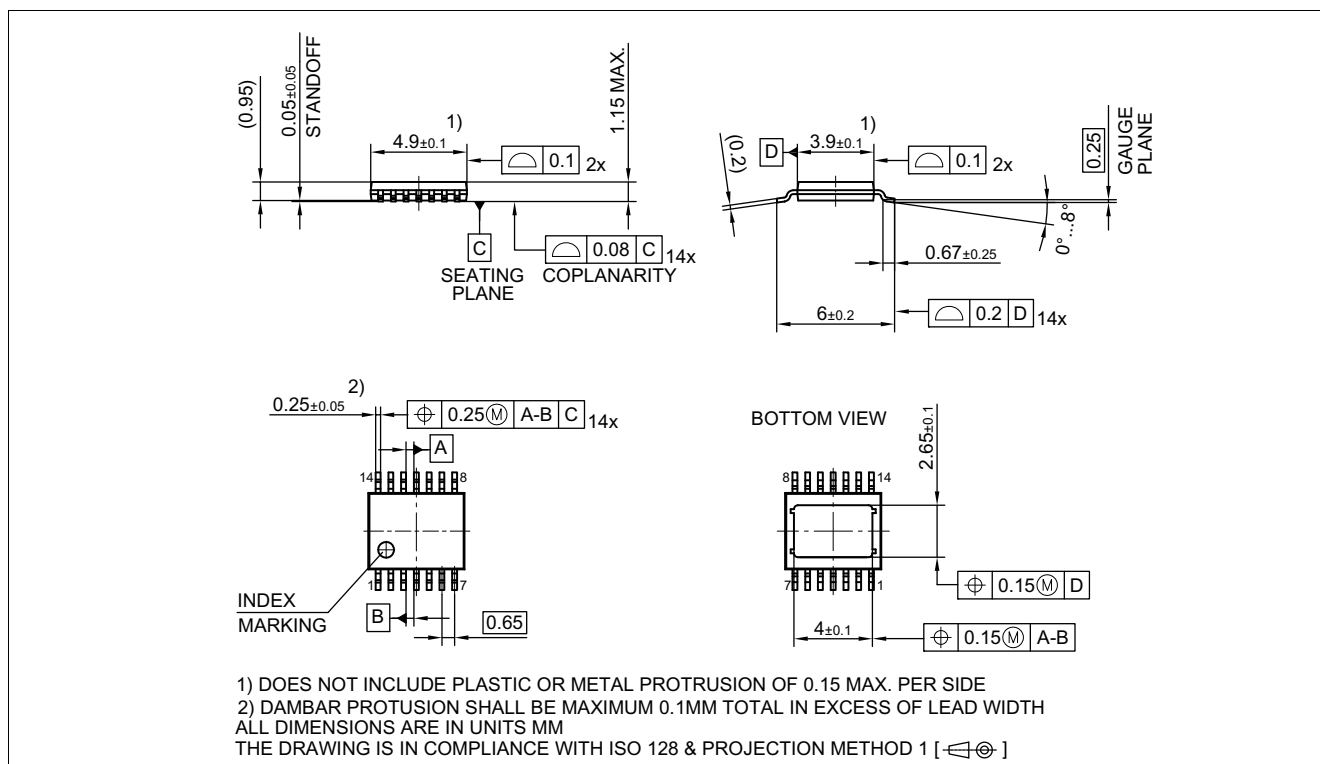
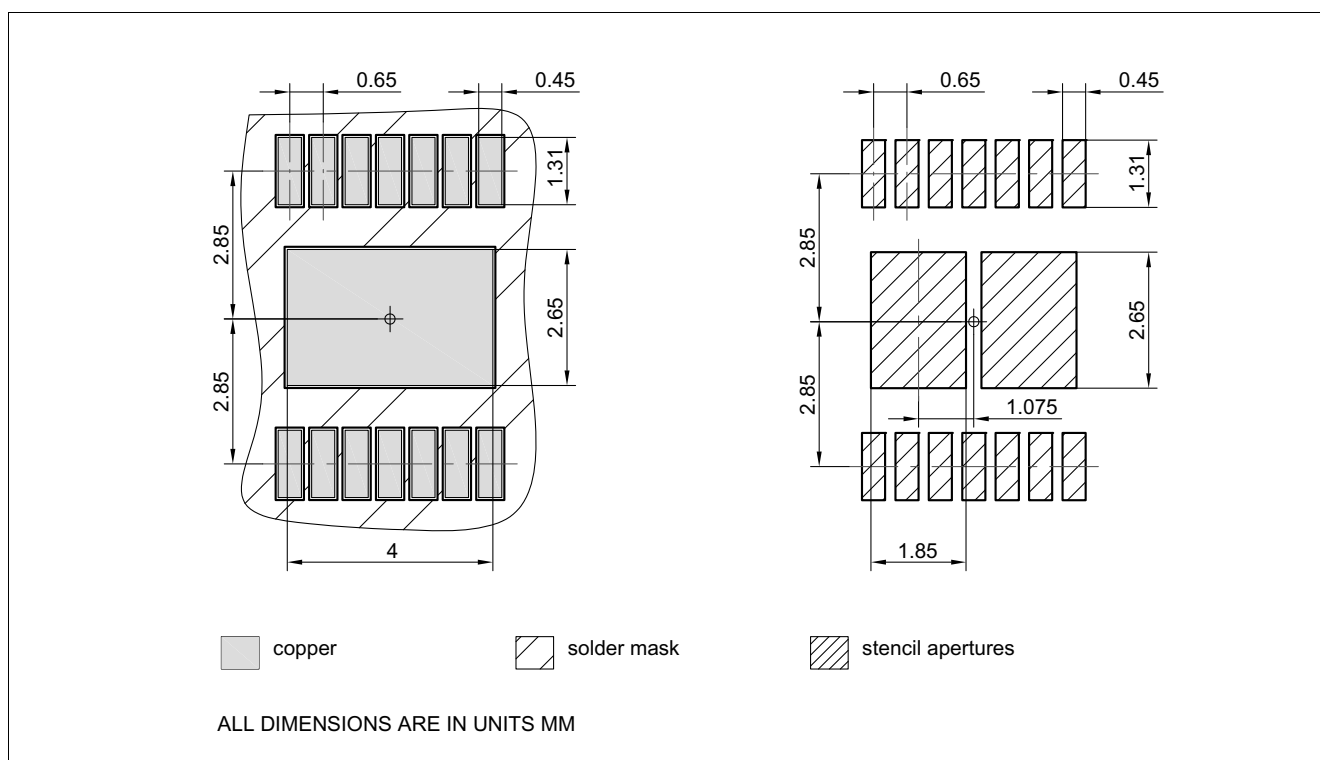

Figure 43 PG-TSDSO-14 (Thin (Slim) Dual Small Outline 14 pins) Package Outline
Figure 44 PG-TSDSO-14 (Thin (Slim) Dual Small Outline 14 pins) Package pads and stencil
1.02 , 2019-06-26	<p>Chapter 9.2 updated ($2\text{ V} \rightarrow V_{\text{DS(OLOFF)}}$)</p> <p>Chapter 1 updated ((inserted headline "Product Validation"), (Qualified in accordance with AEC Q100 grade 1 → Qualified for automotive applications. Product validation according to AEC-Q100 Grade 1.))</p> <p>General: updated Product Name (PROFET™+2 → PROFET™+2 12V)</p> <p>Page 1: updated figure product</p> <p>Table 24 updated punctuation</p> <p>Chapter 9.3.1 updated (typo)</p> <p>Page 1: updated (Package PG-TSDSO-14-22 → Package PG-TSDSO-14)</p> <p>Figure 29 updated</p> <p>Figure 43 updated (PG-TSDSO-14-22 (Thin (Slim) Dual Small Outline 14 pins) Package Outline → PG-TSDSO-14 (Thin (Slim) Dual Small Outline 14 pins) Package Outline)</p> <p>Figure 44 updated (PG-TSDSO-14-22 (Thin (Slim) Dual Small Outline 14 pins) Package pads and stencil → PG-TSDSO-14 (Thin (Slim) Dual Small Outline 14 pins) Package pads and stencil)</p> <p>Table 1 updated ((Symbol: $I_{\text{VS(SLEEP)}}$ → $I_{\text{VS(SLEEP)_85}}$), (Parameter: Minimum Overvoltage protection ($T_J = 25\text{ °C}$) → Minimum Overvoltage protection ($T_J \geq 25\text{ °C}$))</p> <p>P_9.6.0.6 updated (Note or Test Condition: removed unnecessary line-break)</p>